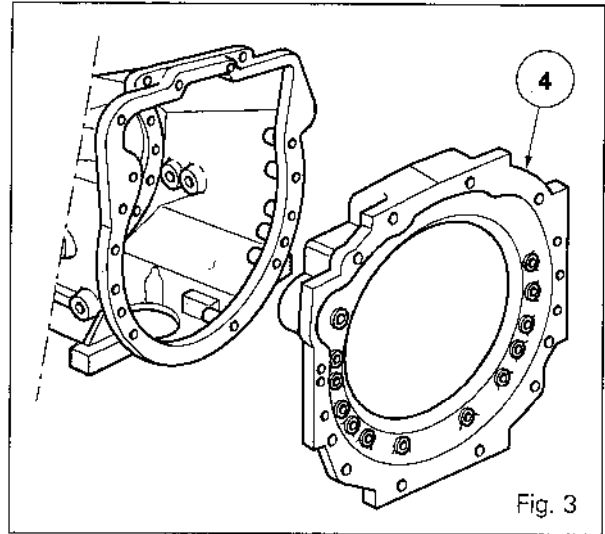

Fig. 3
The spacer (4) (Fig. 3) fitted between the engine and the gearbox is different from the one fitted to tractors 6235 to 6255.
Sealing between the input shaft (19) and the spacer (4) is provided by a lip seal (10) (Fig. 3).